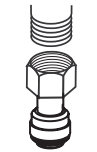

Figure 2
4. Install faucet adapter fitting to faucet (see Figure 2). Do not overtighten to prevent damage to fitting. Referring to section "Using Push-In Fittings", insert a section of plastic tubing into fitting, making sure end of tubing is firmly seated to backstop.